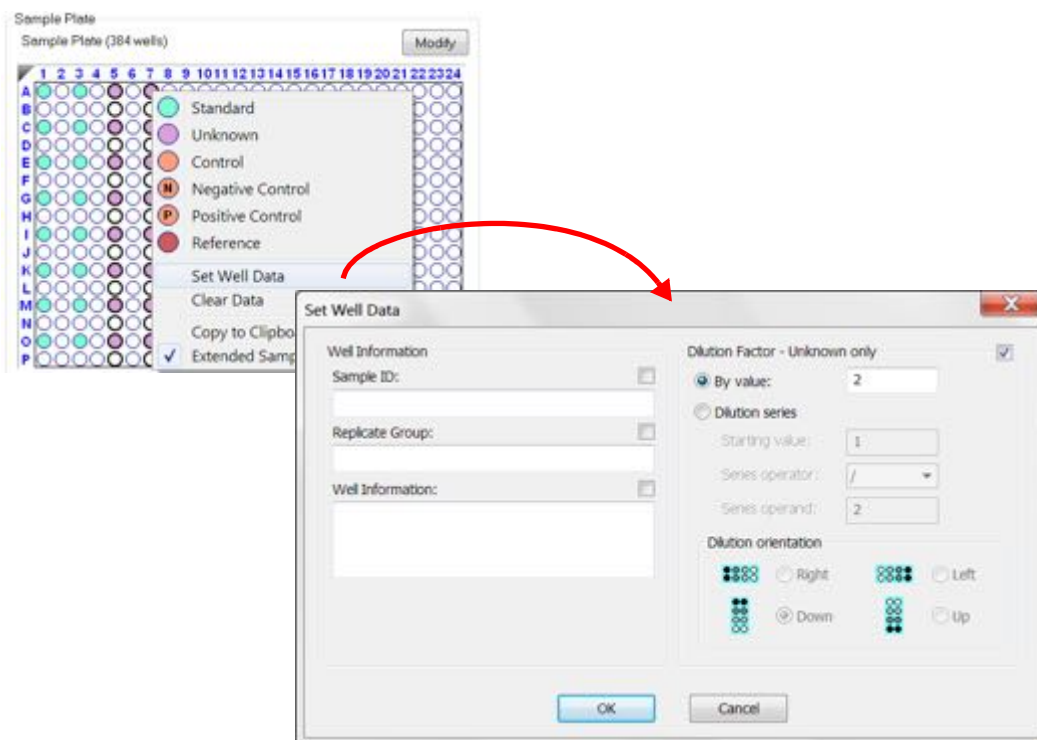

Figure 7-20: Sample Plate Map—Setting a Dilution Factor or a Serial Dilution
The **Set Well Data** dialog box displays (see Figure 7-20).
1. In the **Set Well Data** dialog box (see Figure 7-20), select the **By Value** option.
1. In the **Set Well Data** dialog box (see Figure 7-20), select the **Dilution series** option.